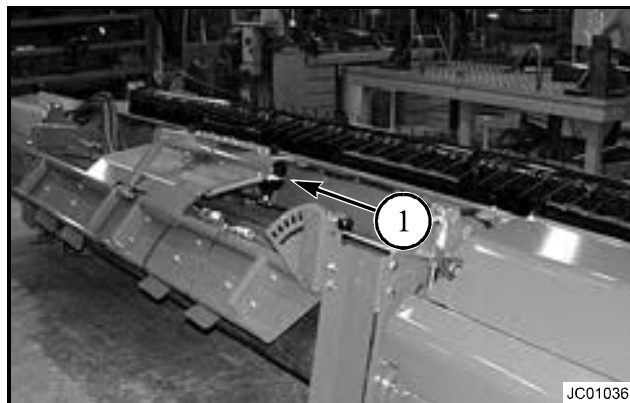

FIG. 20
FIG. 20: The accumulators (1) are charged with dry nitrogen. Use only dry nitrogen when charging the accumulators. DO NOT use air or oxygen or an explosion will occur.